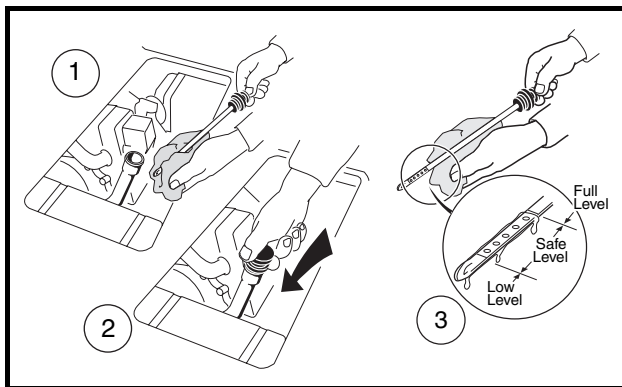

Figure 15-12 Check Engine Oil Level
9. Check engine oil level (**Figure 15-12, Page 15-9**).
- 9.1. With vehicle on level surface, remove dip stick and clean with cloth (**Figure 15-12, Page 15-9**).